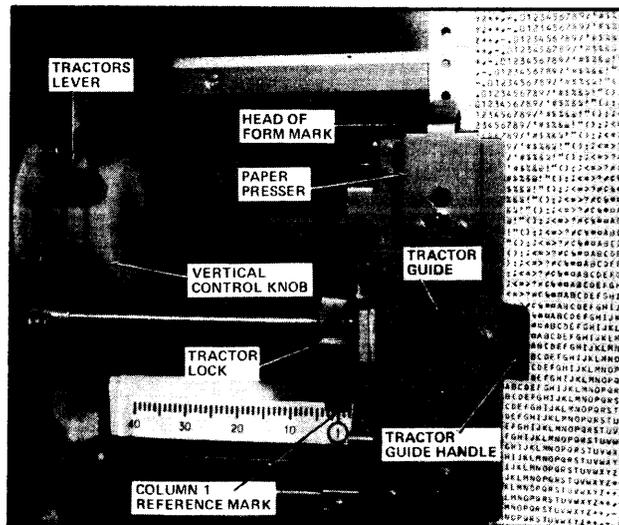

Figure C-21
5. Disengage tractors by pulling tractors level, on left-hand side, down. (Figure C-21).
6. Position left-hand tractor. Tractor must be positioned on reference mark and locked in position unless otherwise specified in operating instructions. Both left-and-right hand tractors can be moved independently by loosening their tractor locks (Figure C-21).